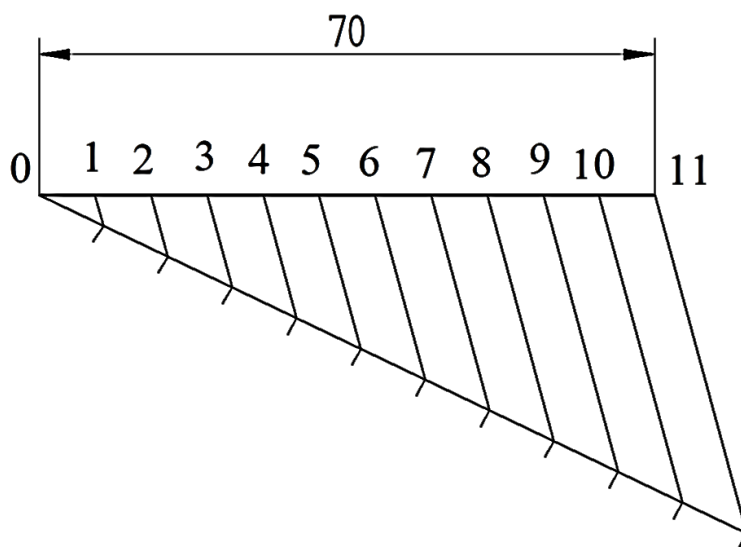

Fig. 1.46 Division of Line
8. Select dimension command  select the required line and geometry to dimension the figure as in Fig. 1.46.